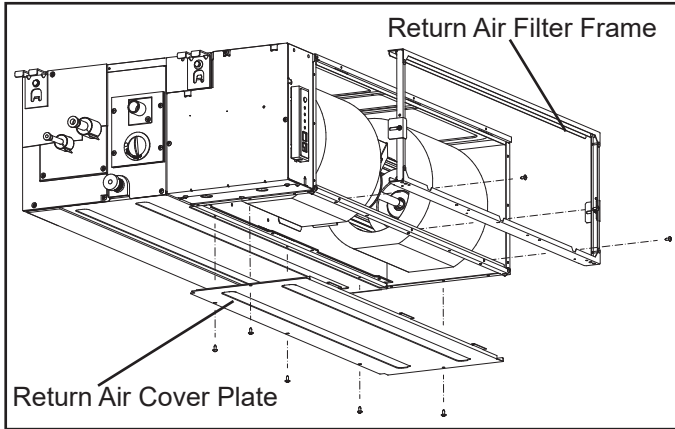

Figure 10. Remove Filter, Filter Frame and Return Air Cover Plate from Existing Location
7. The unit is factory-configured for the supply air to be delivered from the front and the return air filter at the rear of the unit. The return air filter location can be relocated in the field for bottom return air filter access, if more convenient. See Figure 10.
2. Remove the screws that secure the filter frame to the rear of the unit and set the frame aside. See Figure 10.
3. Remove the screws that secure the return air cover plate to the bottom of the unit. Set the cover plate aside. See Figure 10.